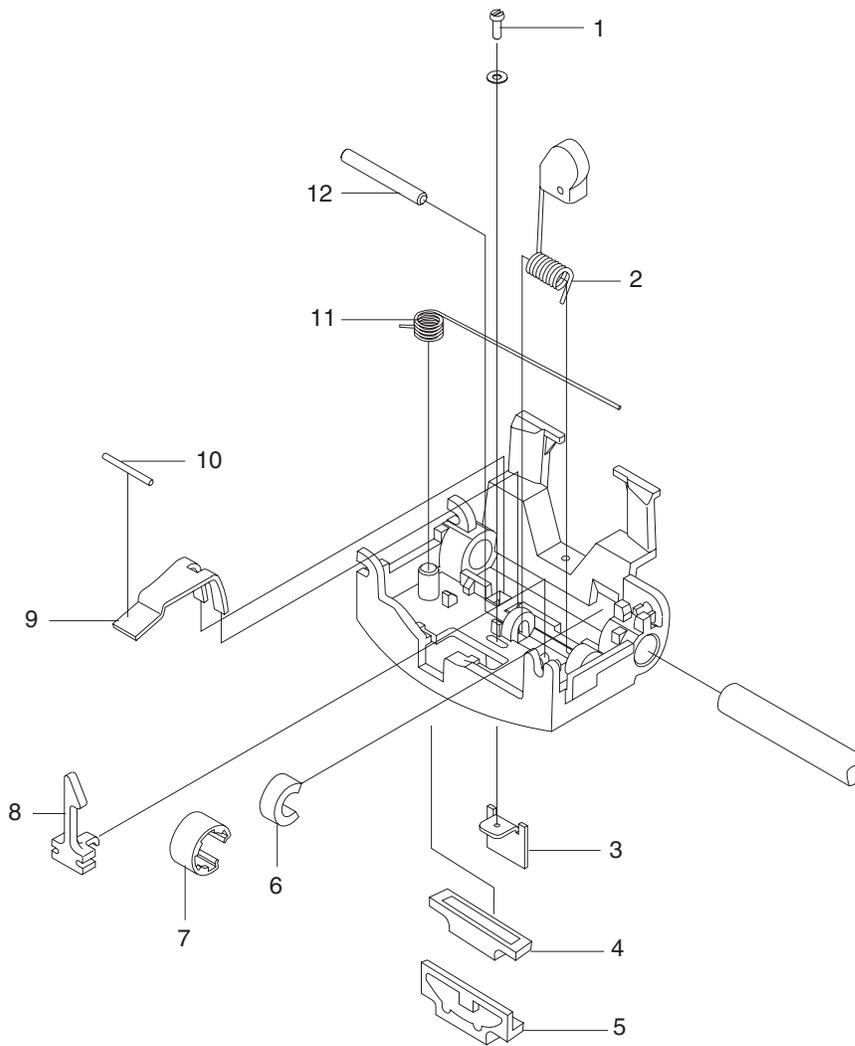

Figure 5-24. Print Head Carriage Components
- 2** Remove the wear shoe (4) that the carriage rides on. See Figure 5-24 on page 5-35.
- 3** Remove the shaft from the assembly. The retainer (7) and wiper (6) will fall from the assembly.
- 4** Remove the spring (11).
- 5** Push down on the belt clamp (9) and hold it there.
- 6** Remove the clamp holding pin (10).
- 9** Remove the latch (8).
- 10** Pull the pin (12) out of the print head preload spring (2) and remove the preload spring.
- 11** Remove the screw (1) and the home sensor flag (3).